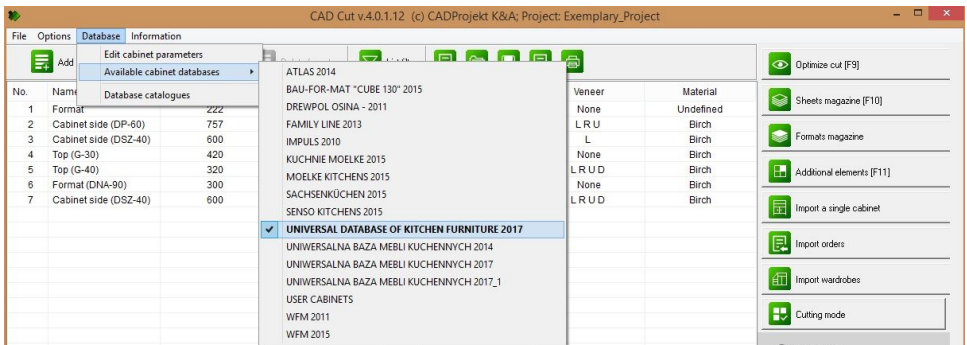

Fig. 109 – selecting a database used in the design created in CAD Kitchens
- select the database, on which the design was based, f. e. UNIVERSAL (Fig. 109);